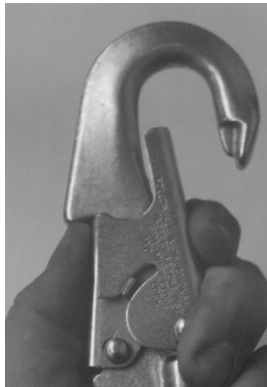

Figure 5g
- d. Use the other hand to depress the lock and open the gate. See Figure 5g.